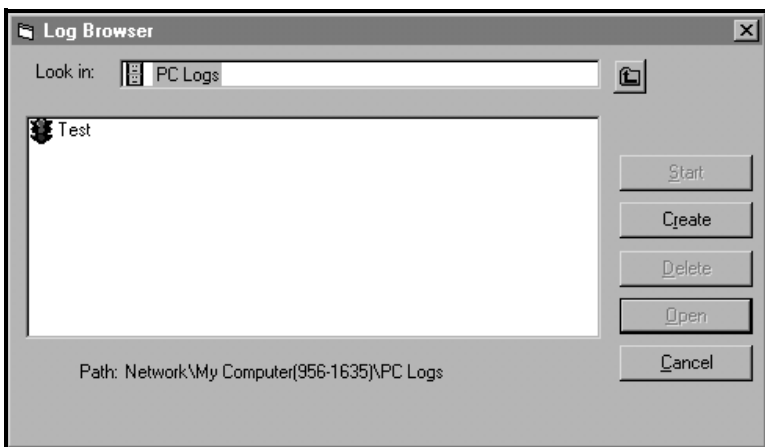

Figure 78: Create a PC Log
3. Double click on *PC logs* to advance to the dialog box shown in Figure 78.
4. At the dialog box shown in Figure 78 on page 95, click on the [Create] option button to create a new meter log.